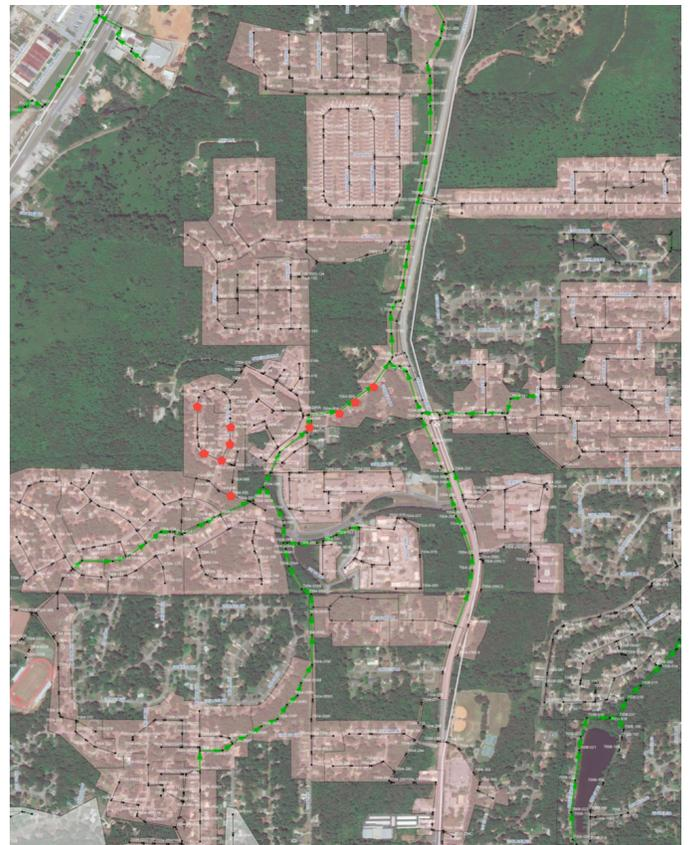

Figure 1: Phase III location of (11) iTracker sensors
In order to further isolate the source of I&I entering the system, (11) iTracker sensors were strategically placed upstream of Site 7004-002 (Figure 1).